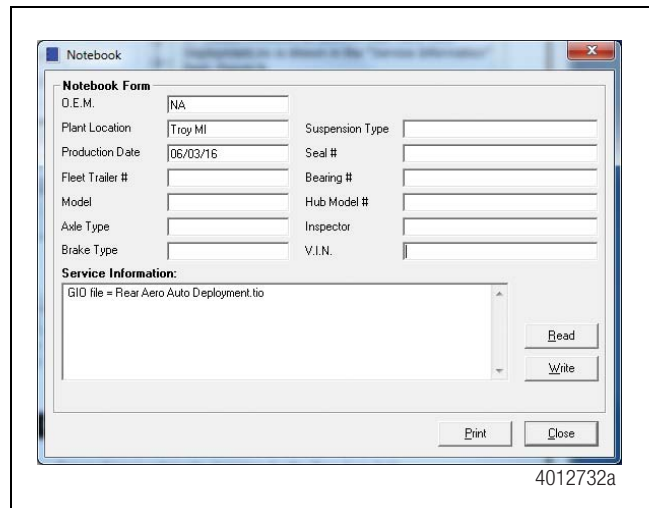

Figure 8
- Select **Notebook** to confirm Rear Aero Auto Deployment.tio is shown in the “Service Information” field. Figure 8.